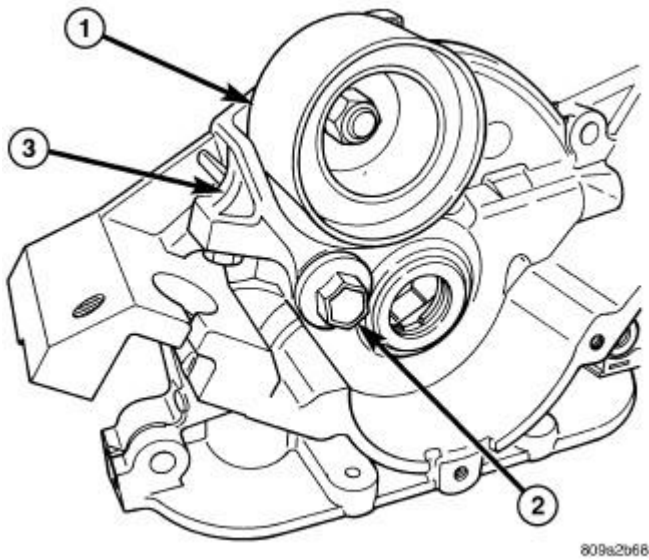

Fig. 523: Tensioner Pulley, Pivot Bolt & Tensioner Bracket
2. Remove the timing belt tensioner pulley (1) and bracket (3) assembly by unscrewing the pivot bolt (2) from the oil pump housing. Refer to **Fig. 523**.